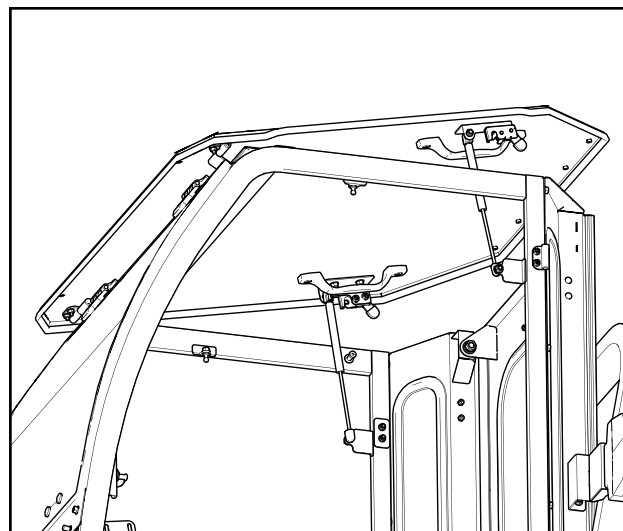

Fig. 14.2 (Roof Gas Shock Installation)
**14.2** Disengage the roof latches, manually lift the roof, and install the gas shocks. See Fig. 14.2. *Note: Orient the gas shocks so that the piston rod is pointing down for best, continuous seal lubrication and longest gas shock life.*